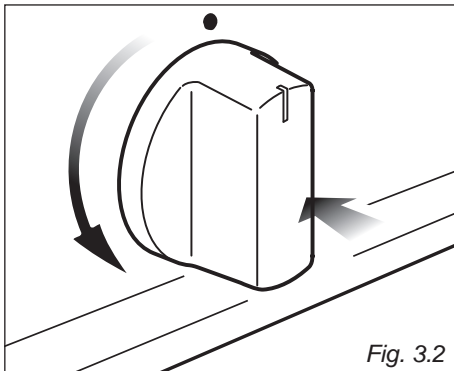
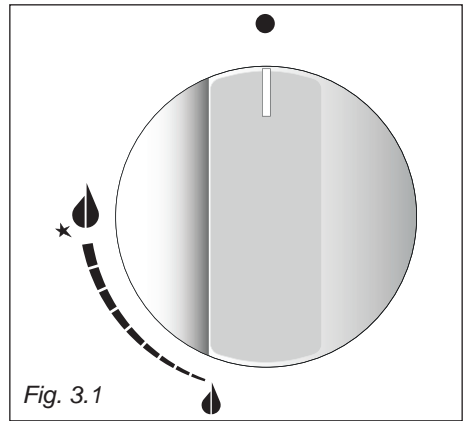

Fig. 3.2
Fig. 3.1
1. Press in the corresponding knob and turn counter-clockwise (fig. 3.2) to the full flame position marked by the  symbol (fig. 3.1) and hold the knob in until the flame has been lit.
Gas flow to the burners is adjusted by turning the knobs (illustrated in figs. 3.1 - 3.2) which control the safety valves. Make the symbol of the knob match with the indicator on the control panel (or vice versa) to obtain: